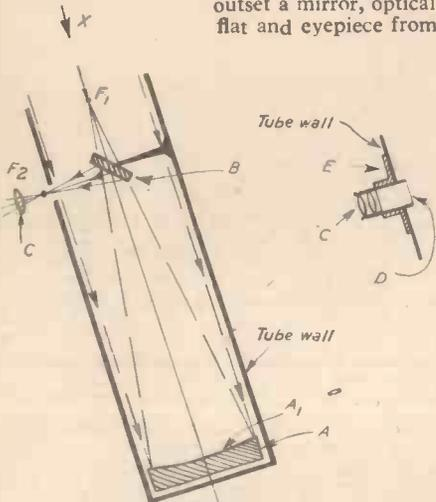

Fig. 1.—The optical system of the Newtonian reflecting telescope.
The optical system of this reflecting telescope is shown in Fig. 1. The system was devised by Sir Isaac Newton. The mirror at A has a top reflecting surface A_1 of paraboloidal figure. It is able to gather light from the heavens and bring it to a focus; the prime focus F_1 . In order that the image so formed can be examined the rays are intercepted by an optical flat (or prism) B which turns the rays to the side of the tube. The flat mirror is placed within the convergent beam before it comes to a focus and reflects the light so that the image is formed at F_2 . Obviously the flat mirror B reduces the light gathering power of the telescope but there is no way of avoiding this. The smaller the central obstruction in relation to the aperture the better within reason. If the diameter of the small mirror is near one-sixth of the aperture of the telescope the image is scarcely affected at all and only one-thirty-sixth (less than 3 per cent.) of the light is lost. In this design we will
Item in Fig. 1.
B. Flat mirror, aluminised, 1.3in. dia. when viewed from X, Fig. 1. This will cost about £1.